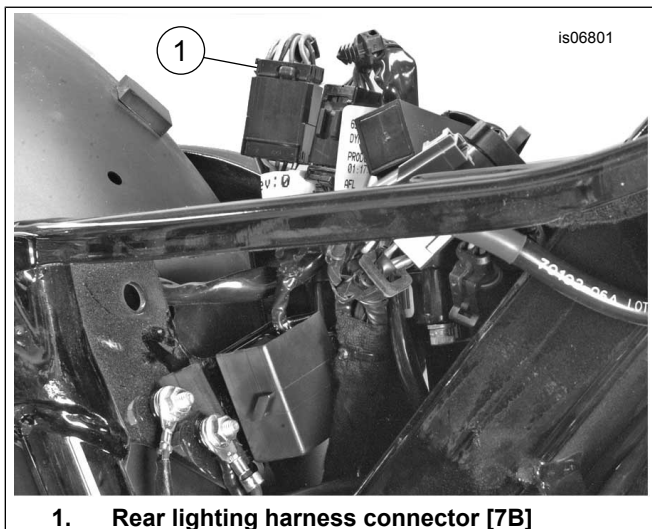
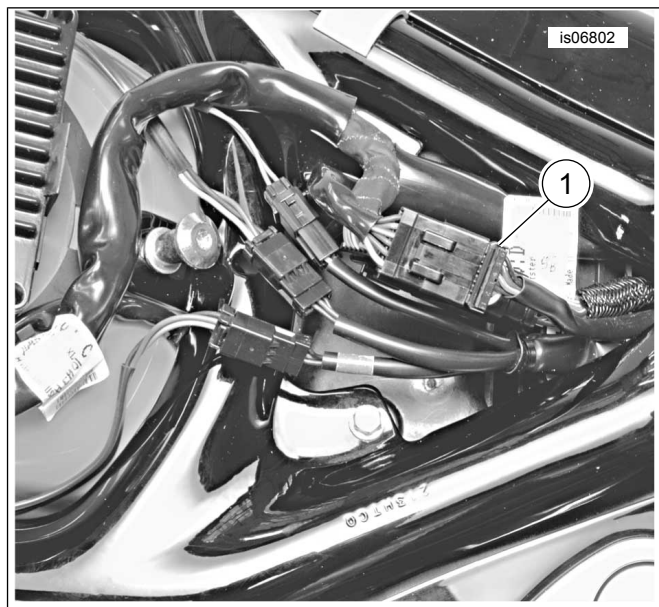

Figure 2. Rear Lighting Harness Connector - Dyna Models
Figure 3. Rear Lighting Harness Connector - Sportster Models
1. See Figure 2 or Figure 3. Locate and disconnect rear lighting harness connector [7B] from the main wiring harness connector [7A].